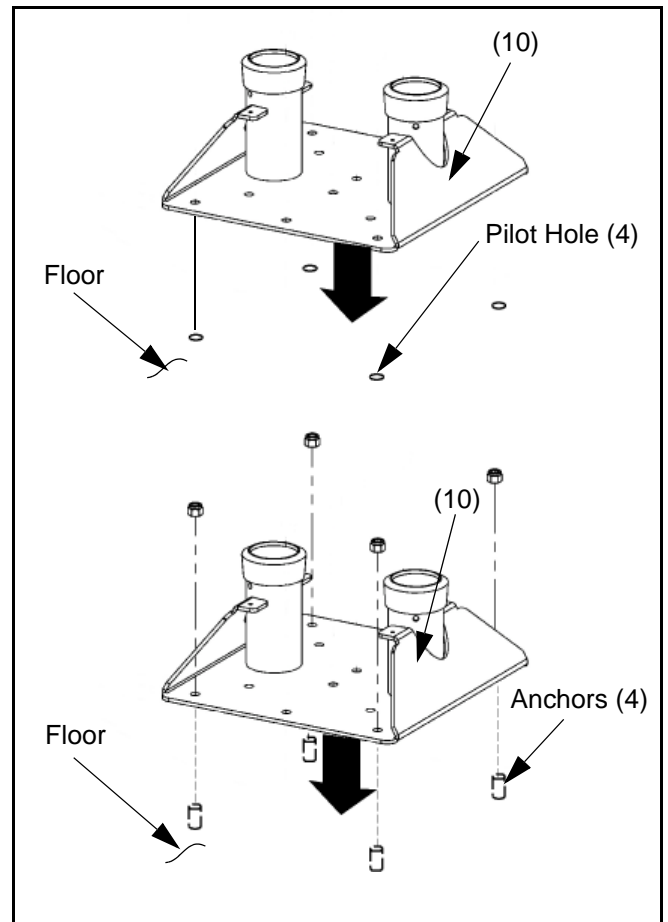

Figure 3: Install Base To Floor
1. Place Base (10) at desired location on floor, ensuring location is flat, and capable of supporting five times the combined weight of the stand and all equipment mounted on the stand.
2. Using Base (10) as a template, mark anchor locations on floor.
3. Remove Base (10), drill and install anchors
4. Place Base (10) over anchors.
5. Secure Base (10) to anchors using appropriate mounting hardware. (see figure 3)